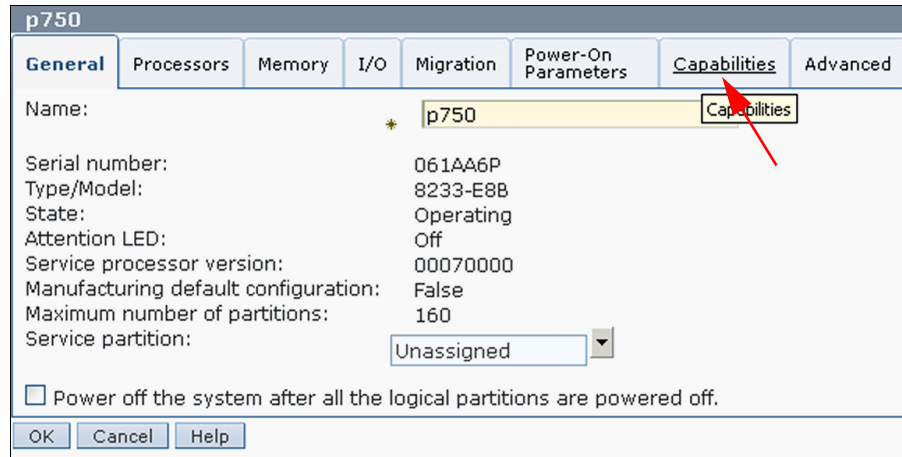

Figure 9-7 Selecting Capabilities tab in HMC managed system Properties
3. In the Properties window, select the **Capabilities** tab, as shown in Figure 9-7.